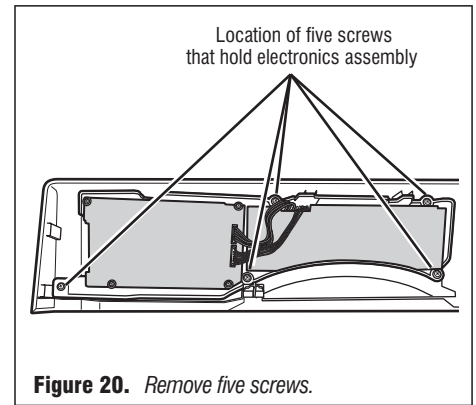

Figure 20. Remove five screws.
5. The console electronics consists of two printed circuit boards, connected by two cables, mounted in a single electronics assembly. The assembly is fastened to the decorative piece by five screws. To remove this assembly, remove the knob from the front, remove the screws, and pull up on the assembly. See figure 20.